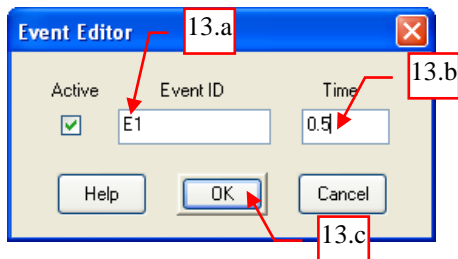

Fig. 8
13. In the “Event Editor” dialog box shown in Fig. 8, do the following: